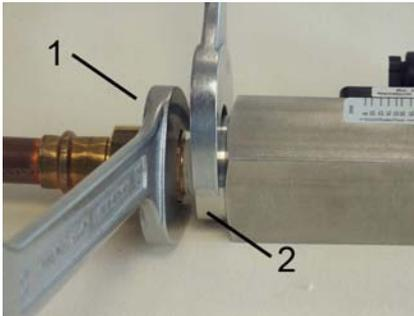

Fig. 11: Screw in the device
3. ▶ Keep turning in the adapter union (Fig. 11/1) while holding the process connection of the device locked (Fig. 11/2) until the connection is tight.